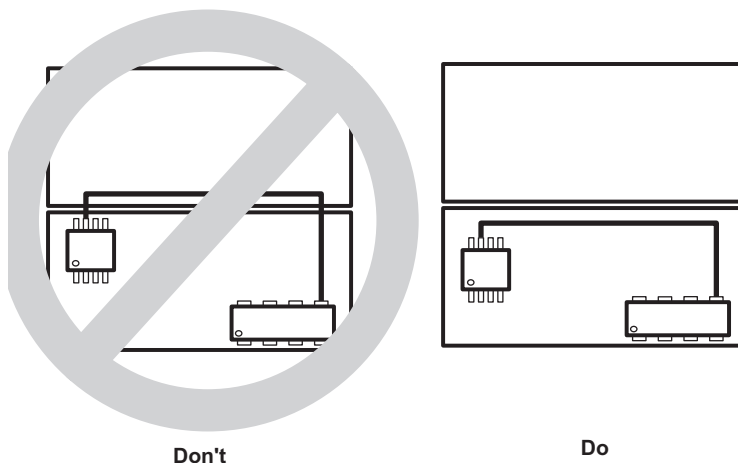

Figure 7. Do Not Cross Plane Boundaries
- Do not route traces so they cross from one plane to the other. This can cause a broken RF return path resulting in an EMI radiating loop as shown in Figure 7. This is important for higher frequency or repetitive signals. Therefore, on a multi-layer board, it is best to run all clock signals on the signal plane above a solid ground plane.